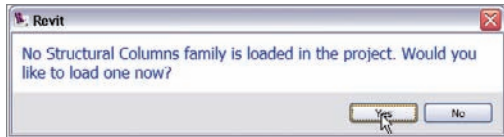

FIGURE 8.22 You'll see this message when no columns are loaded in the model. Click Yes.
4. You will probably not have any structural columns loaded into the model. If you get the message shown in Figure 8.22, click Yes to browse for a structural column.